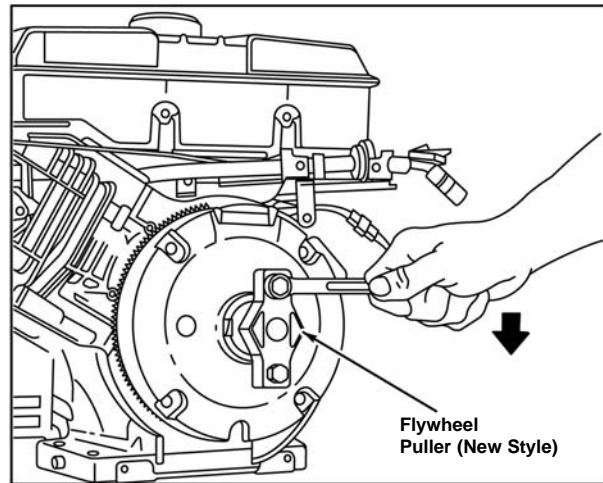

Figure 63 - Pulling Flywheel, Typical
4. Use flywheel nut to protect crankshaft threads by turning nut down flush with top of threads, Figure 63.